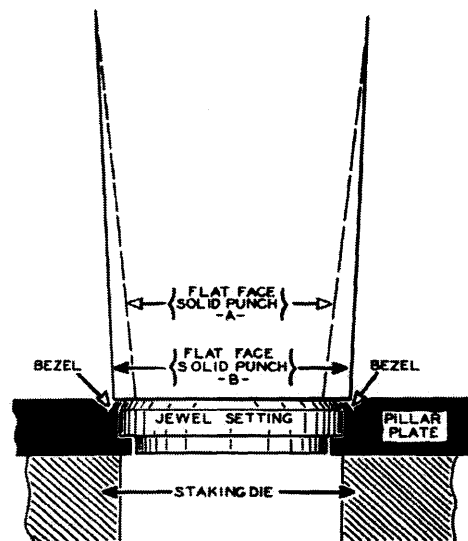

FIG. 12-15
8. Press setting in place with flat face solid punch which is slightly smaller in diameter than the bezel (A-figure 12-15).
9. Select flat face solid punch slightly larger than the diameter of setting and tap slightly. This will force edge of bezel over jewel setting (B-figure 12-15).